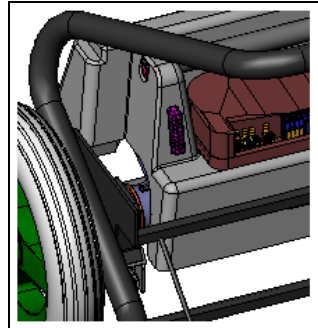

figure 4a
- f. Connect the electrical connector coming from the frame to the power unit Socket (See **figure 4a**) .